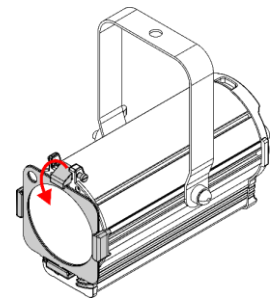

Fig. 15
- 04) Pull the **color frame clip (02)** downwards to release the **spring-loaded screw (01)** (see Fig. 15). The color frame will be locked in position.
- 05) Secure the color frame to the overhead structure with an appropriate secondary attachment, for example a safety cable. Put the safety cable through the **safety eye (17)** of the color frame. See **4.3 Rigging** on page 13 for more information.